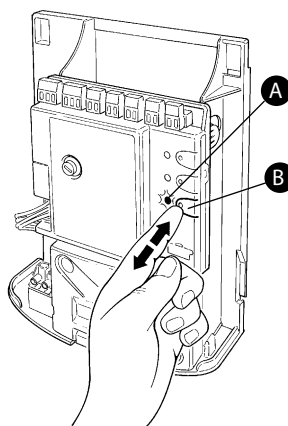

Fig. 3
2. To start the recognition of the opening and closing angles, push and hold the P3 button [B] on the control unit as in Fig. 3.
4. Wait until the angles recognition manoeuvre (leafs closing, opening and closing) has finished correctly (Led [A] in Fig. 3 off)